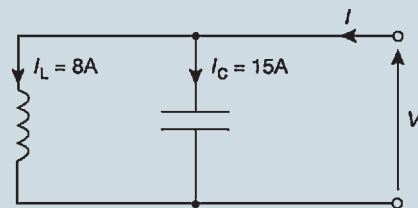

Figure 18.24
14. In the circuit shown in Fig. 18.24, the magnitude of the supply current I is: